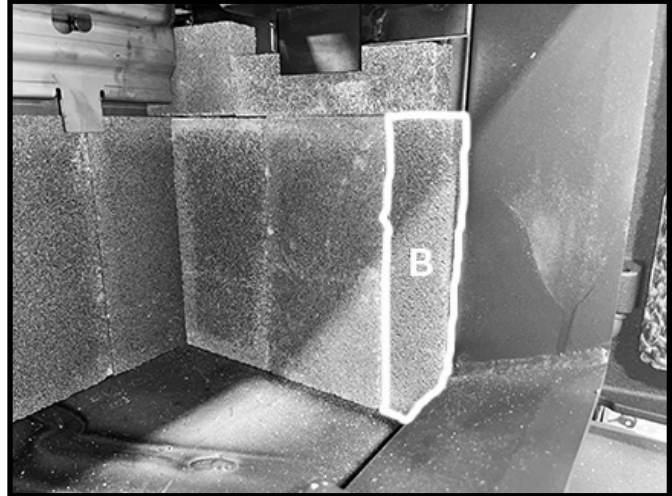

Figure 11. Front side wall firebricks in position.
6. Place a "B" firebrick under the "E" firebrick and against the side wall of the firebox Figure 11.